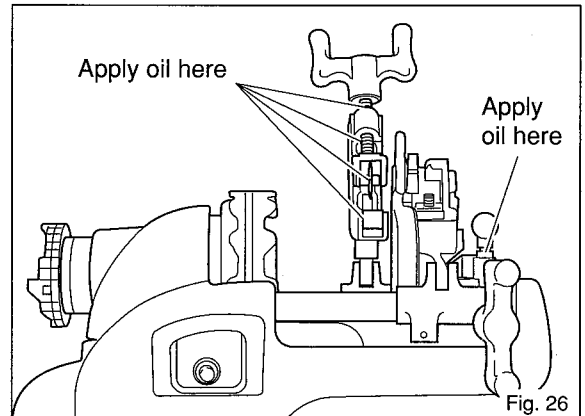

Fig. 26
1. Oiling the Pipe Cutter. (Fig. 26)
Be sure to apply light oil to the thread on of the cutter handle, blades and roller shafts once each day to maintain lubrication. This is extremely important; not only will it ensure that the tool cuts easily, it will also make its service life several times longer. (Fig. 26)